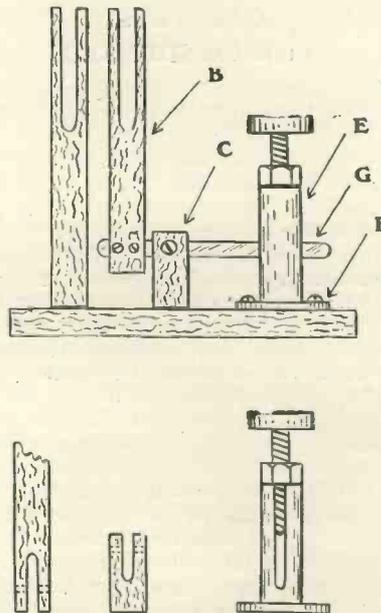

Fig. 5.—The coil holder.
**A**SERIOUS effort to combine simplicity with efficiency is a very interesting procedure which, in this case, resulted in the production of the basket-coil holder shown in Fig. 5. A  $2\frac{1}{2}$  in. length of brass tubing E, which is about  $\frac{1}{2}$  in. in diameter, is slotted to a depth of a little more than 2 in. to take a strip of 1-16th in. sheet brass G. A 2B.A. nut is soldered to the top of the tube, and a flange, drilled to take two wood screws, is soldered to the base as shown in Fig. 5. A short length of 2B.A. screwed rod is fitted at one end with a small knob and screwed into the nut. A piece of square wood C and one of the coil supports B are also slotted as shown in Fig. 5. The brass arm is hinged to C, which is then secured to the baseboard, and the coil support B is firmly screwed to the end of the arm. The other end of the arm passes through the slot in the tube E, so that when the knob is screwed down the end of the screwed rod engages the edge of the arm inside the tube, thus giving the desired movement to the coil. The weight of the coil and the support is sufficient to keep the arm